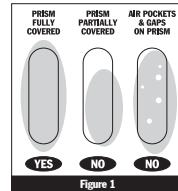

Figure 1
- 2 Gently close the daylight plate over the prism. The sample solution should spread as a thin, even layer in between the daylight plate and the prism. By looking through the daylight plate, ensure that the sample solution covers the ENTIRE surface of the prism. If there are bubbles and gaps or if the sample is only on one portion of the prism, the sample solution must be reapplied (Figure 1). Inaccurate readings will result if the prism is not covered correctly.
- 3 Gently close the daylight plate over the prism. The distilled water should spread as a thin, even layer in between the daylight plate and the prism. By looking through the daylight plate, ensure that the distilled water covers the ENTIRE surface of the prism. If there are bubbles or gaps or if the distilled water is only on one portion of the prism, the distilled water must be reapplied (Figure 1). Inaccurate calibrations will result if the prism is not covered correctly.